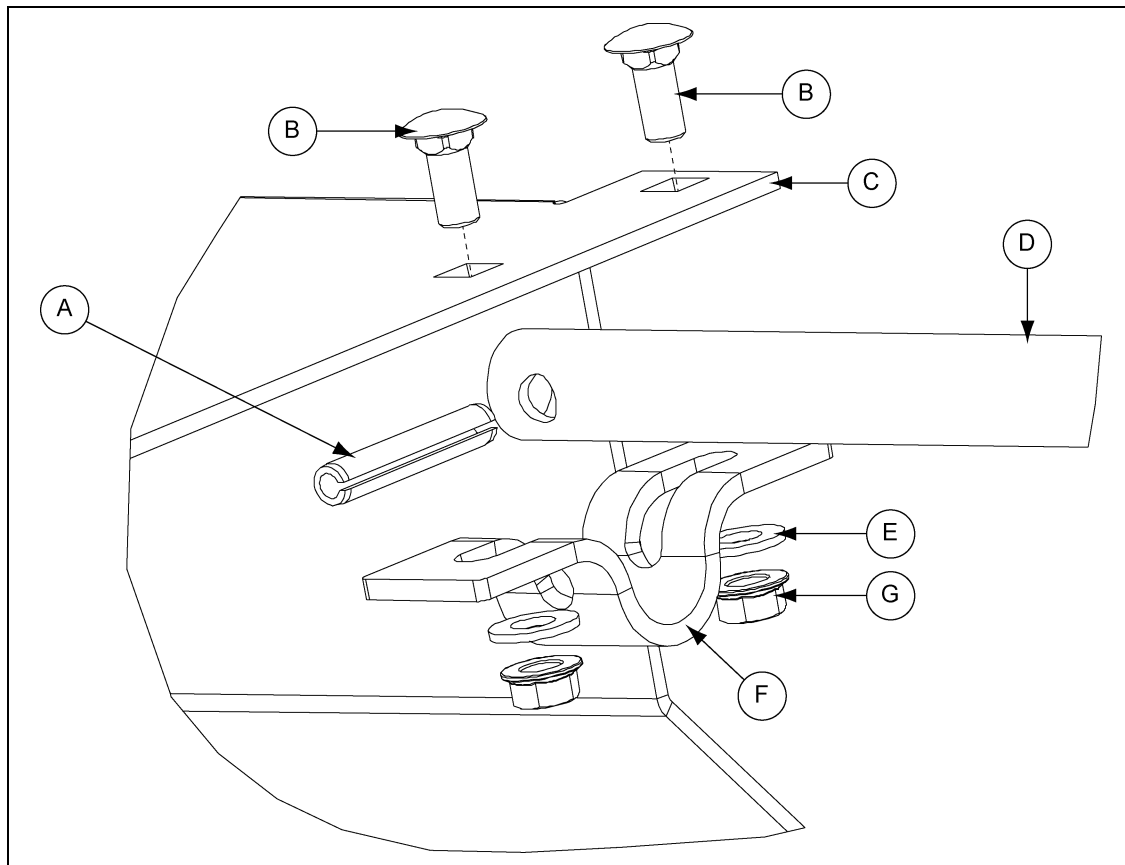

Figure 4L
4. Fasten clamp to bottom side of control gate by using two (2) 5/16" x 3/4" long carriage bolts, flat washers and serrated flange nuts. (See Figure 4L.)